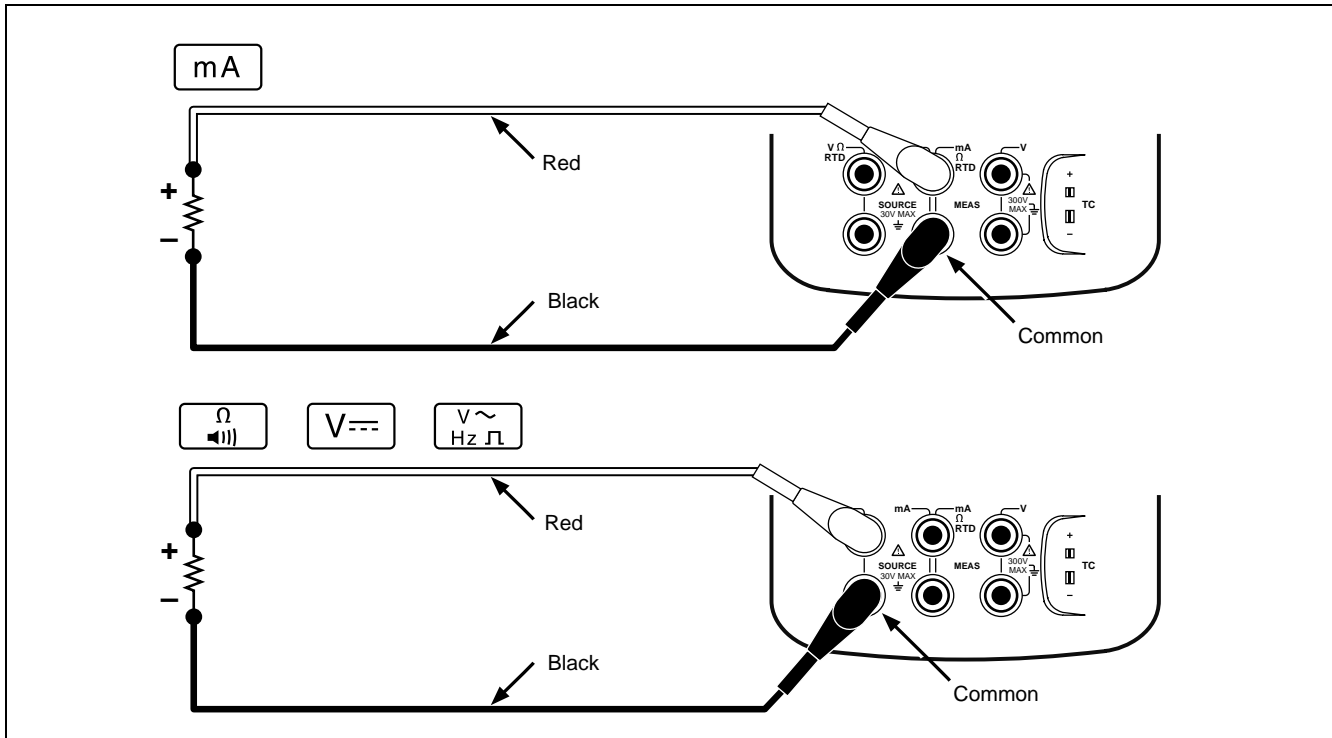

Figure 14. Electrical Sourcing Connections
1. Connect the test leads as shown in Figure 14, depending on the source function.